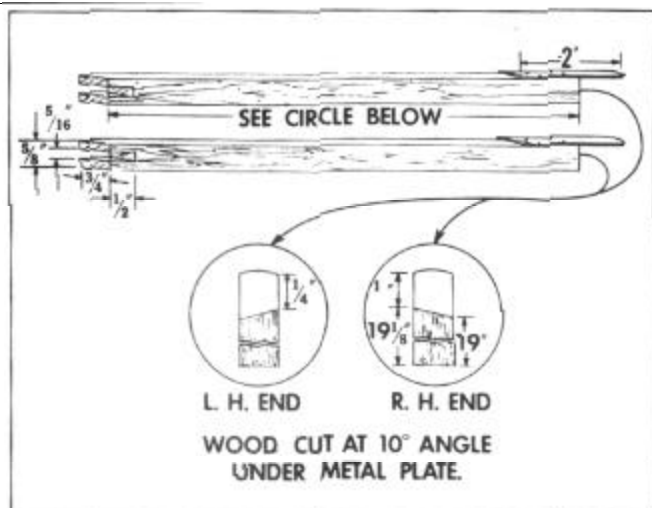

FIGURE 173
**NOTE: The rear curtain alignment gauges can be made up in your shop. See Figure 173 for details.**